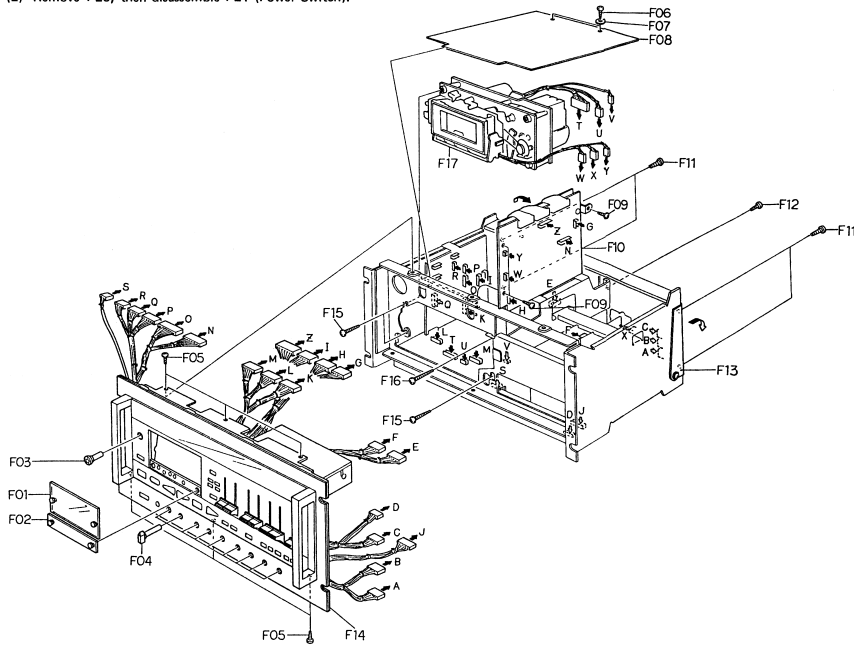

Fig. 2.2
Refer to Fig. 2.2.
- (1) Refer to Fig. 2.2. Remove Front Panel Ass'y referring to item 2.3.
- (2) Remove F01 and F02, then disassemble F03 (CPU P.C.B. Shield Plate).
- (3) Remove F04 and F05, then disassemble F06 (CPU P.C.B. Ass'y including 6 connectors).
- (4) Remove F07 (CPU P.C.B. B Ass'y) by releasing the self-interlocking pin of the P.C.B. Supporters, then disassemble F08 (CPU P.C.B. A Ass'y).
- (2) Remove F20, then disassemble F21 (Power Switch).
- (2) Remove F22, F23 and F24, then disassemble F25 (Logic P.C.B. Ass'y including 6 connectors and wires connected by soldering).
- (2) Remove F01, then disassemble F02 (FL Indicator Ass'y).
- (3) Remove F03 (Slide Volume Knob), F04, F05 and F06, then disassemble F07 (Volume Holder & Front Escutcheon B Ass'y).
- (4) Remove F08, then disassemble F09 (MIC Amp. & Volume P.C.B. Ass'y).
- (5) Remove F10, then disassemble F11 (Function P.C.B. Ass'y) and F12 (Front Escutcheon B Ass'y).
- (6) Remove F13, then disassemble F14 (Display House Ass'y).
- (7) Remove F15, then disassemble F16 (Display P.C.B. Ass'y) and F17 (Display House).
- (8) Remove F18, F19, F20 and F21, then disassemble F22 (Front Escutcheon A Ass'y).
- (9) Remove F23, then disassemble F24 (Mechanism Control Switch P.C.B. Ass'y).
- (10) Remove F25, then disassemble F26 (RAMM Control Switch P.C.B. Ass'y) and F27 (Front Escutcheon Sub A Ass'y).
- (1) Refer to Fig. 2.2. Remove Mechanism Ass'y referring to item 2.4.
- (2) Press the Eject Button to open the Cassette Case Ass'y.
- (3) Remove F01 and F02, then disassemble F03 (Cassette Case Holder L Ass'y) by releasing the Self-interlocking Pin of the Damper Lock Arm and F04 (Cassette Case Ass'y).
- (4) Remove F05, then disassemble F06 (Cover Plate Ass'y).
- (2) Remove F01 and F02, then disassemble F03 (Flywheel Holder Ass'y) and F08 (Capstan Belt).
- (3) Remove F04, then disassemble F05 (Capstan Motor Ass'y).
- (4) Remove F06, then disassemble F07 (Speed Cal.P.C.B. Ass'y).
- (5) Remove F09 (Supply Flywheel Ass'y), then disassemble F10 (Take-up Flywheel Ass'y).
- (6) After removing both Flywheel Assemblies, disassemble F11 (Thrust Washer 3 mm), F12 (Thrust Washer 2.6 mm), F13 (Flange Thrust Cap) and F14 (Thrust Spring).